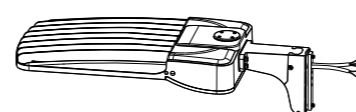

Figure 6
- Step 2: Fit the light with fixing plate and the bracket by top-down, then tighten the top screw to complete the installation. (Figure 6)